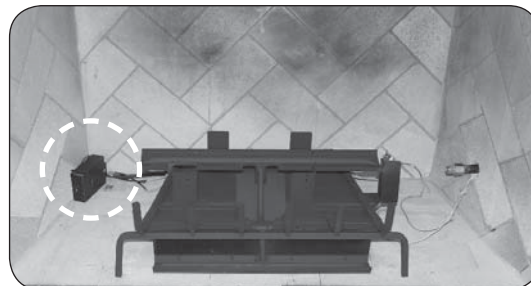

Fig. 12-3 Place switch box
7. **Place the switch box on its side, at the rear left corner of the fireplace.** It should rest with its bottom as near as possible and facing the fireplace wall. It must not be placed directly next to the burner pan area to avoid damage to the batteries. See Fig. 12-3 & Fig. 12-4.